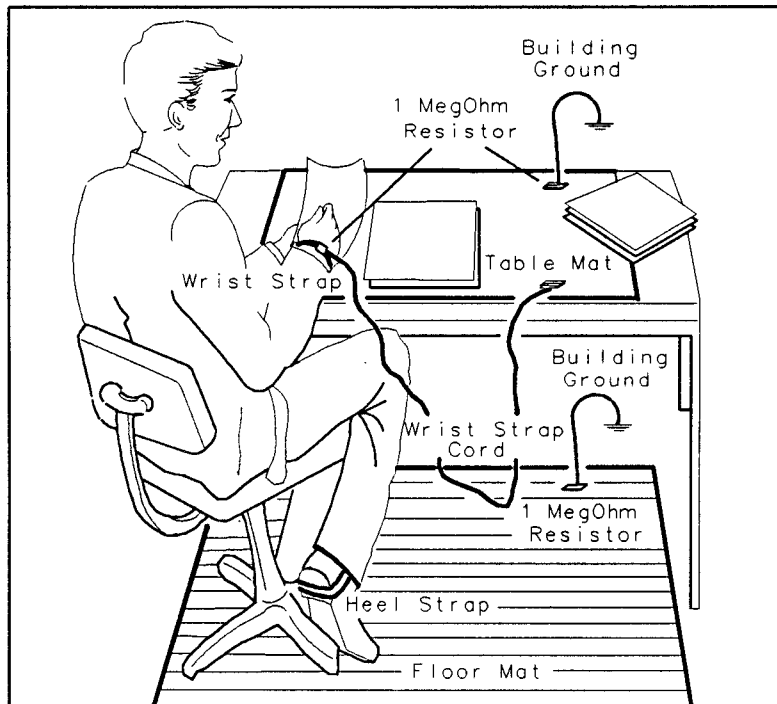

Figure 1-9. Example of a Static-Safe Work Station
Electrostatic discharge (ESD) can damage or destroy electronic components. All work on electronic assemblies should be performed at a static-safe work station. Figure 1-9 shows an example of a static-safe work station using two types of ESD protection: (1) wrist-strap (with greater than 1 M Ω isolation to ground) and table-mat combination, (2) heel-strap (with greater than 1 M Ω isolation to ground) and conductive floor-mat combination. The two types must be used together to ensure adequate ESD protection. Isolation to ground must be provided for personnel protection. Refer to Table 1-4 for a list of static-safe accessories and their part numbers.